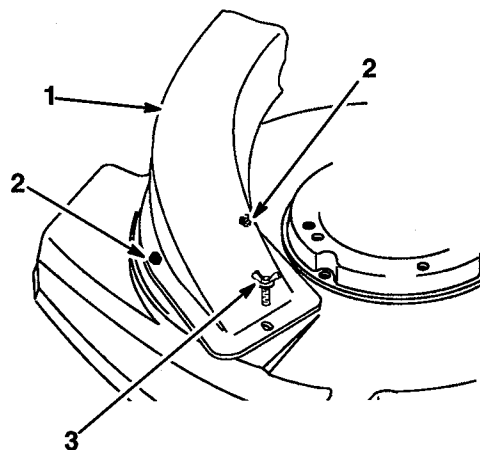

Figure 39
2. Place chute assembly into housing opening (Fig. 39).
5. Secure chute assembly to housing with a wing screw (Fig. 39).